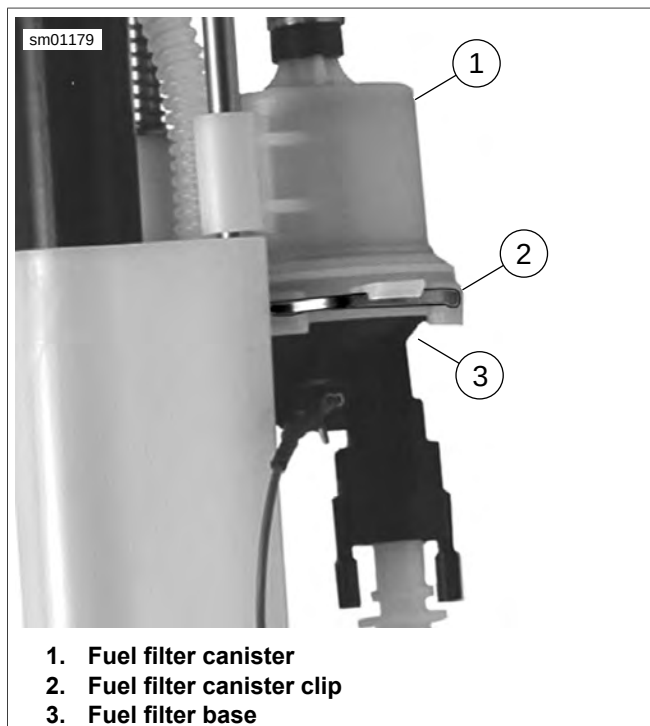

Figure 4-25. Pressure Side Filter
See Figure 4-25. The pressure side filter filters the fuel before it enters the pressure fuel line. Replace the pressure side filter every 161,000 kilometers (100,000 miles) or any time the fuel pump is serviced.
- See Figure 4-25. To remove, slide clip (2) outward.
- Disconnect base (3) from fuel filter canister (1).